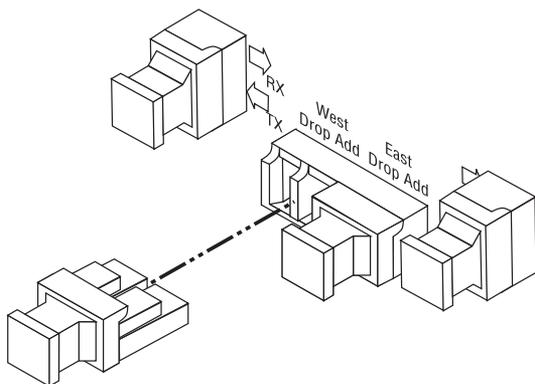

Figure 5. Removing port dust cover
1. Remove the dust covers from the appropriate TD-OADM ports as shown in **figure 5**.
2. Connect a single-mode, dual-fiber duplex LC cable between the Drop port of the TD-OADM and the attached device. When connecting the Drop port, make sure the West/East designation is followed. This will ensure the data from the Drop port is aggregated onto the corresponding fullband port. Ensure that the transmit (TX) is attached to the receive side of the device at the other end, and the receive (RX) is attached to the transmit side.